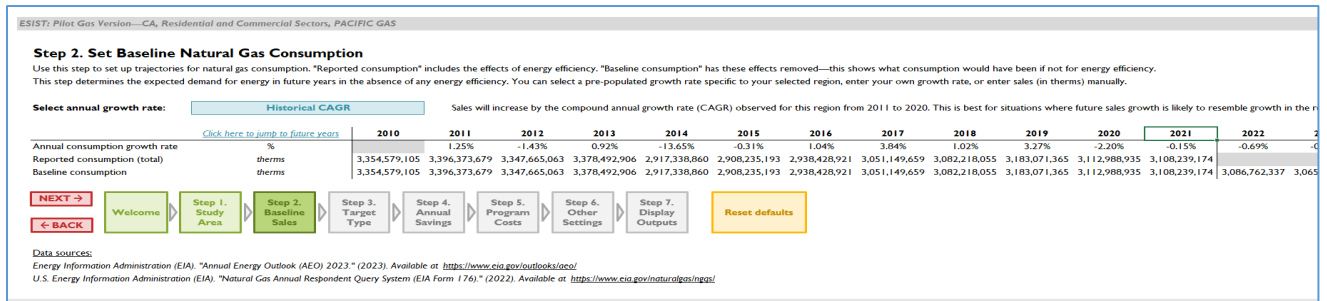

Figure 2. “Set Baseline Natural Gas Consumption” page in default setting
5. You are now on the “**Step 2. Set Baseline Natural Gas Consumption**” page. This page is not applicable for use with ePX, so please leave it in the default setting (see **Figure 2**, below) and click the “Next” button to move to the next page.